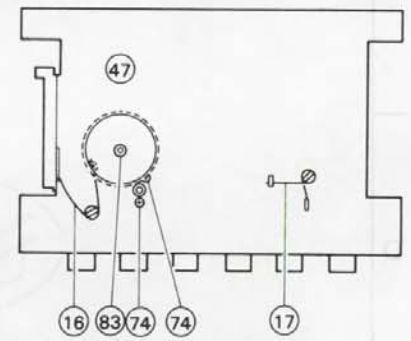

Fig. 7-22
- Chassis removal (Fig. 7-22)
- 1) Remove the three springs (16), (17).
- 2) Remove the two screws (73).
- 3) Remove the two screws (74) securing the capstan metal.